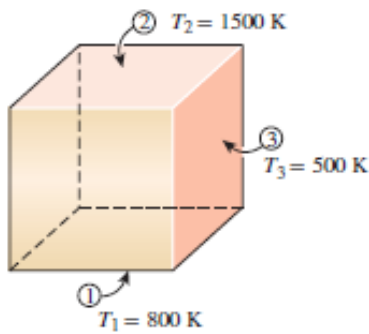

Figure 5
- b) Consider the  $5\text{ m} \times 5\text{ m} \times 5\text{ m}$  cubical furnace shown in Figure 5, whose surfaces closely approximate black surfaces. The base, top, and side surfaces of the furnace are maintained at uniform temperatures of 800 K, 1500 K, and 500 K, respectively. Determine (a) the net rate of radiation heat transfer between the base and the side surfaces, (b) the net rate of radiation heat transfer between the base and the top surface, and (c) the net radiation heat transfer from the base surface. **10**